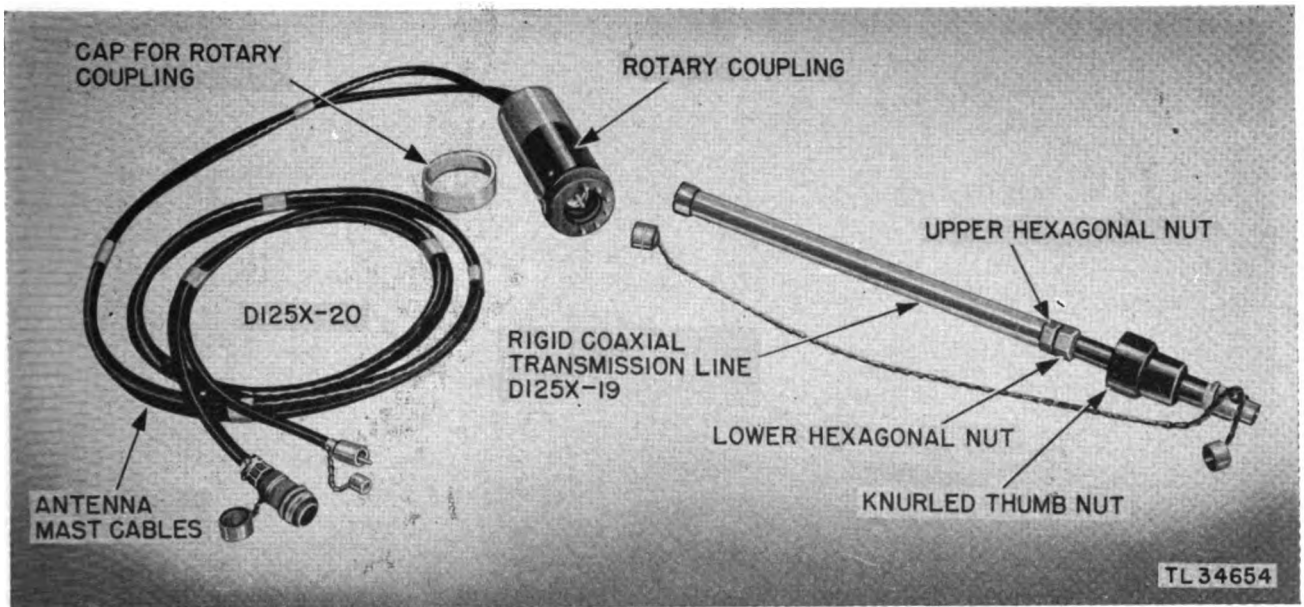

Figure 54. Tower TR-24-A, mast cables, rotary coupling, and transmission line.
f. Remove the cap from the rotary coupling (fig. 54). This is the large coupling at the end of Cords CD-1009 and CD-1010. To avoid losing the cap, fasten it in place on the lower side of the triangular plate previously removed from the top of the gearcase. Replace the plate and cap on the stud of the center leg section.